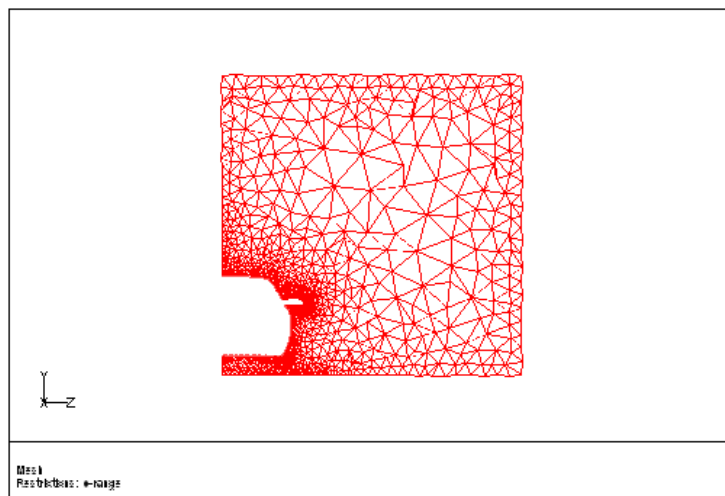

Figure 2.8: Slide of Cells at  $X = -0.37$
- (a) Display the mesh on a slide through the mirror and the car ( $x = -0.37$ ). See Figure 2.8.